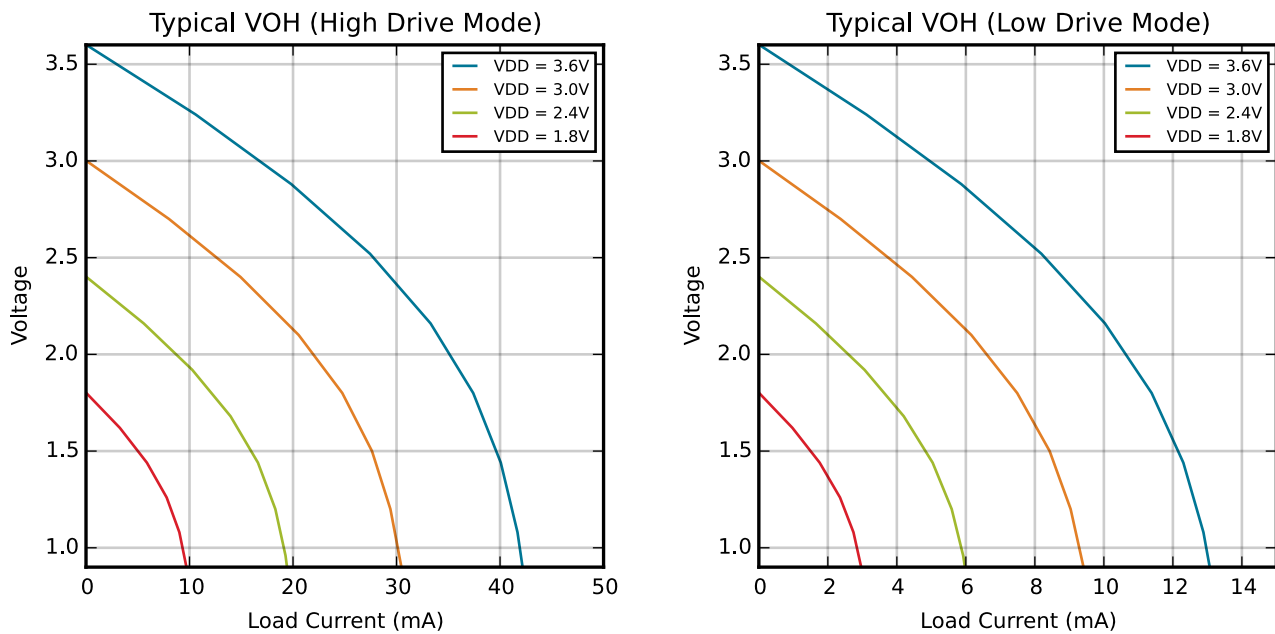
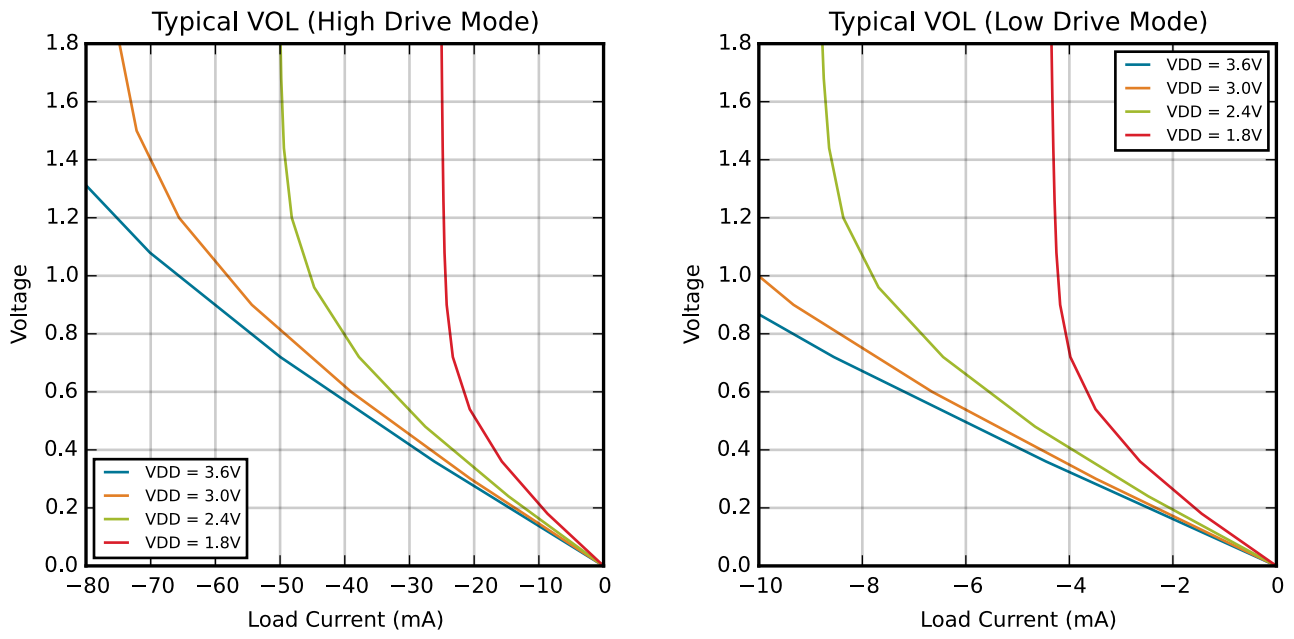

Figure 4.3. Typical V_{OH} Curves
Figure 4.4. Typical VOL Curves
1. See Figure 4.3 Typical V_{OH} Curves on page 32 and Figure 4.4 Typical V_{OL} Curves on page 33 for more information.